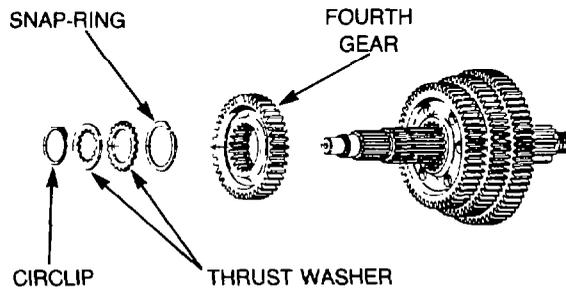

Figure 179 — Installing Fourth Gear
- i. Lubricate the fourth gear thrust washers with transmission oil, then assemble the thrust washers and snap-ring into the fourth gear, ensuring that the externally splined thrust washer is nearest the snap-ring. Install the fourth gear onto the mainshaft and secure in position with the clutch collar locating circlip (see Fig. 179).